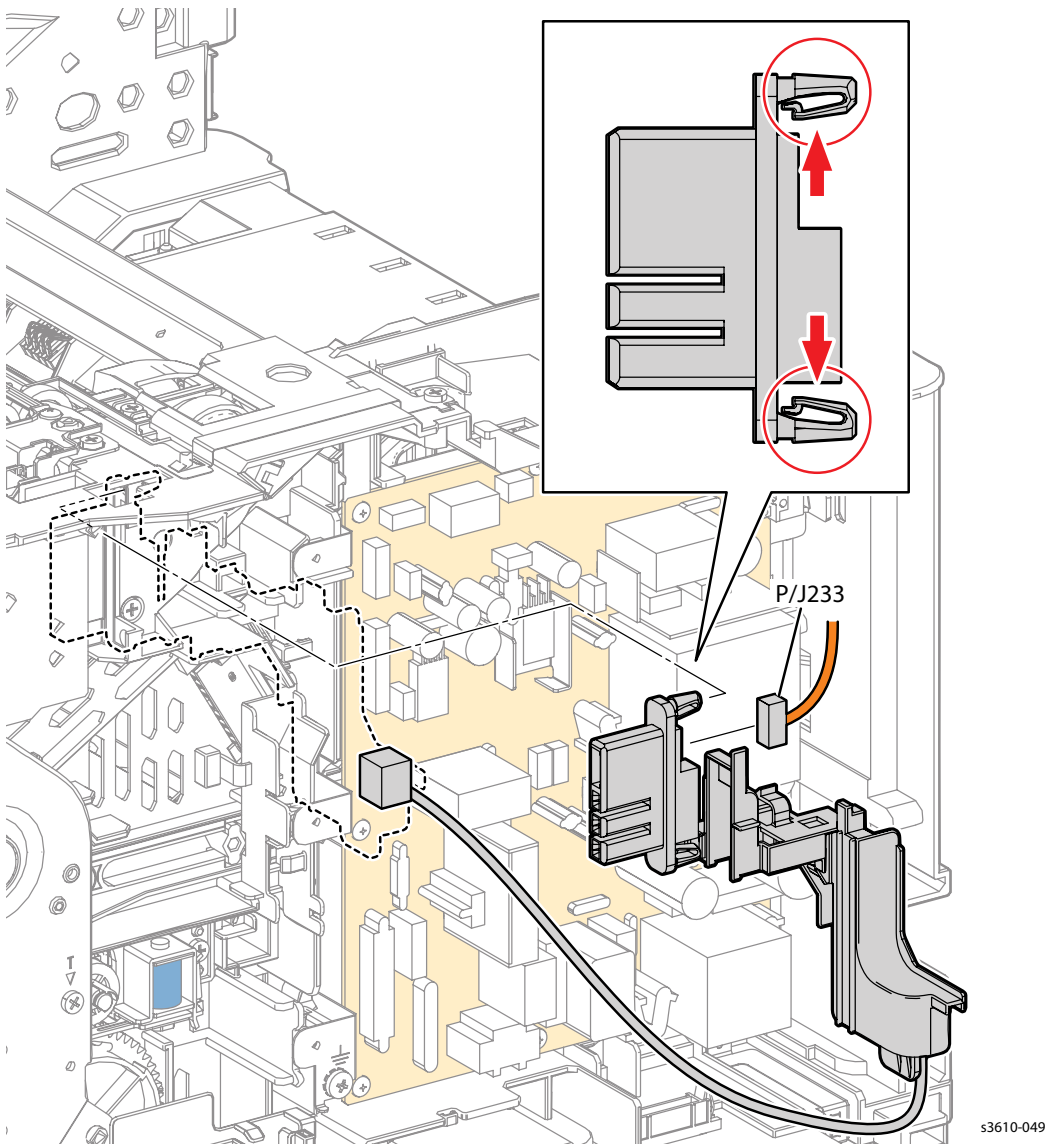

Figure 1
3. Prepare the MCU PWB for removal. (Figure 1)